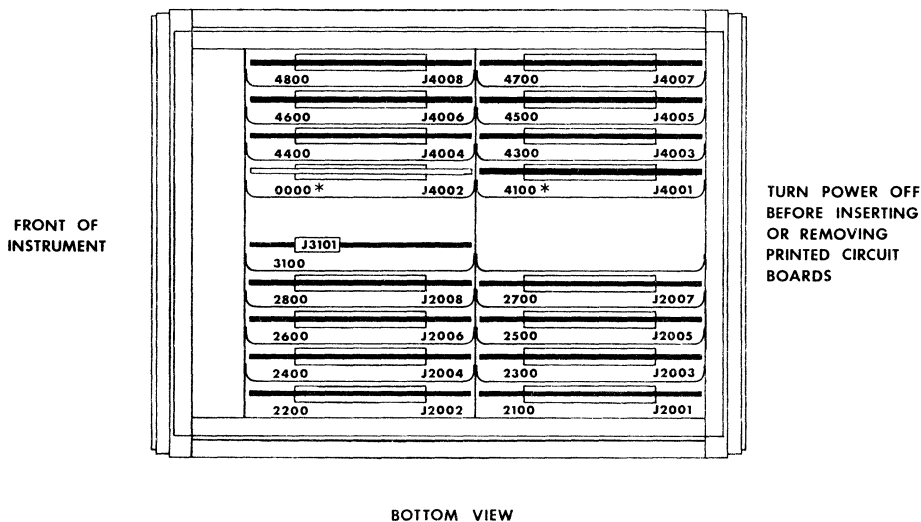

Figure 5-1. Circuit Board Location
5.05 Figure 5-1 shows the location of the circuit boards in the bottom of the instrument.
- d. Adjust the appropriate resistor on board 4800. See Figure 5-1. (Remove bottom cover and stand CE-4 on its back). The adjustable resistors are in order from back to front. Dial 0 is adjusted by resistor toward rear and dial 9 is adjusted by resistor toward front.